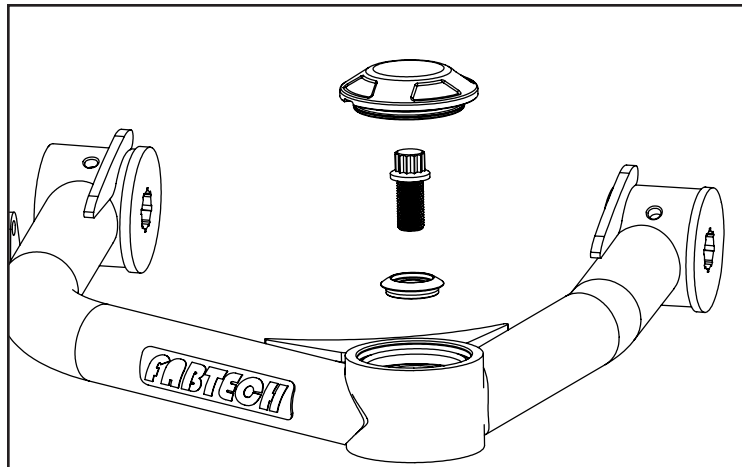

**FIGURE 12 - STEP 13**
13. Install the FT20902 (Driver) & FT20903 (Pass) upper control arms using the factory hardware. Install the bolts with the bolt head inside the tower and the threaded end outside. Using thread locker torque 160 ft-lbs. **SEE FIGURE 12**